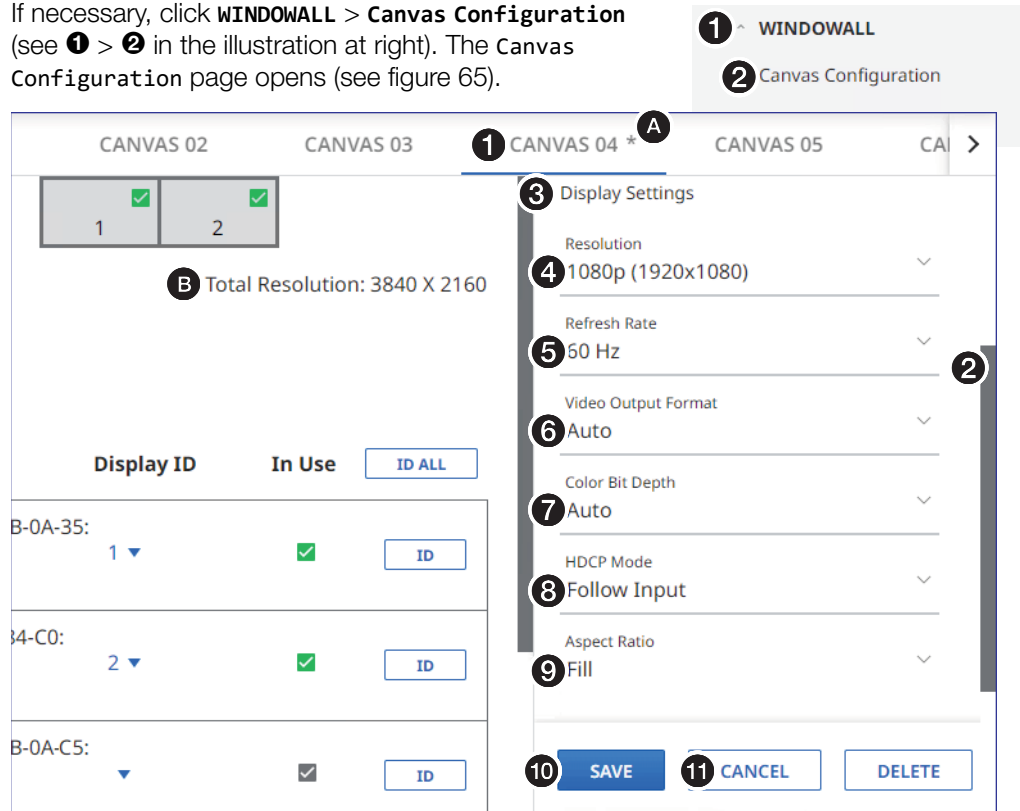

Figure 65. Configuring Decoders
- If necessary, click **WINDOWALL > Canvas Configuration** (see **1 > 2** in the illustration at right). The Canvas Configuration page opens (see figure 65).
- Click the appropriate **Canvas** tab to select the canvas to configure (see figure 65, **1**).
NOTE: After any change, an asterisk (see figure 65, **A**) appears in the Canvas tab to indicate the unsaved changes.
- The **Total Resolution** (see figure 65, E on page 64) displays the resolution of the entire canvas and changes as you make changes on the **Resolution** drop-down menu.